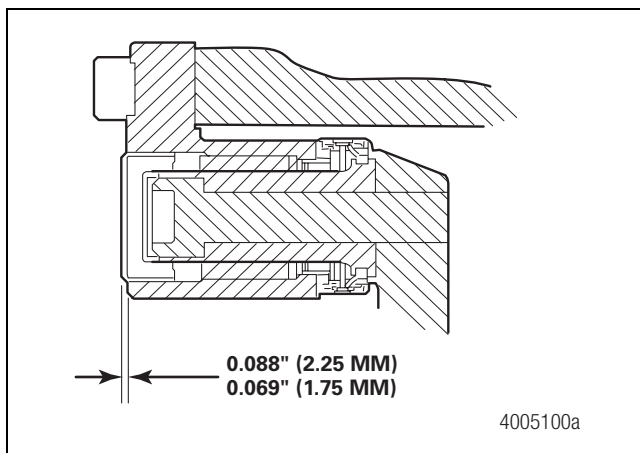
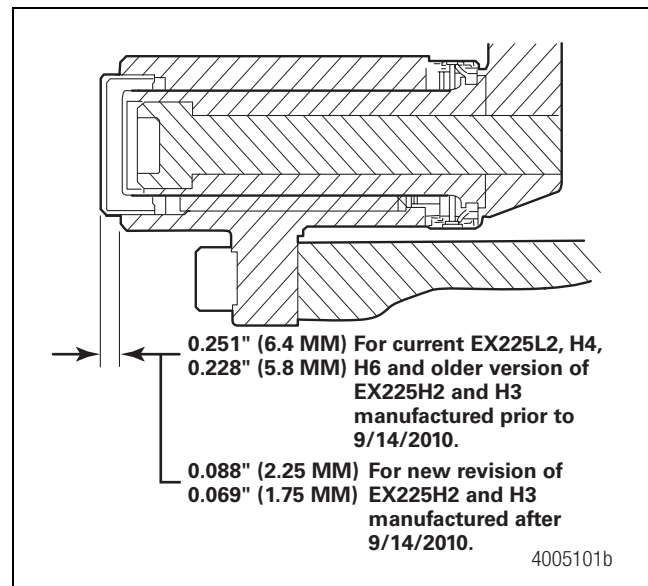

Figure 5.52
Figure 5.53
If you are installing a new housing, use a copper-faced mallet to carefully tap one of the new end caps into the caliper housing assembly until it retains itself. Use the correct size tool to tap the end cap into the bore 0.069-0.088-inch (1.75-2.25 mm) for the short slide pin side, Figure 5.52, and 0.228-0.251-inch (5.8-6.4 mm) for the long slide pin side, Figure 5.53. The caps must be installed to the correct depth.
**For the new revision of EX225H2 and H3 manufactured after 9/14/2010.** If you are installing a new housing, use a copper-faced mallet to carefully tap one of the new end caps into the caliper assembly until it retains itself. Use the correct size tool to tap the end caps into the bore 0.069-0.088-inch (1.75-2.25 mm) for the short slide pin side, Figure 5.52, and 0.069-0.088-inch (1.75-2.25 mm) for the long slide pins Figure 5.53. The caps must be installed to the correct depth.